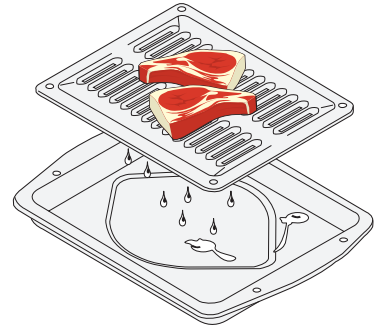

Fig.1 (some models)
Quick Convection Cooking System uses a fan to circulate the oven's heat uniformly and continuously around the oven. This improved heat distribution allows for fast, even cooking and browning results. It also gives better baking results when using two racks at the same time (See Fig. 1).
5. Place the insert on the broil pan (if equipped), then place the food on the insert (if equipped; See Fig. 1).